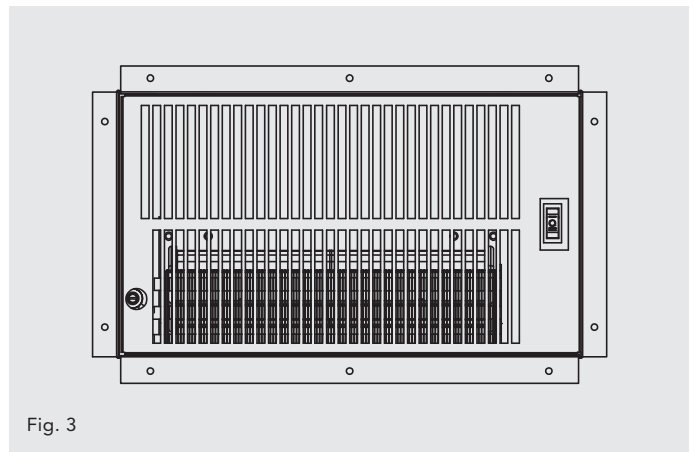

Fig. 3
- To speed installation, remove the six screws securing the debris screen (see Fig 3), put the screws and cover to one side. Remove the fixing screws and lift open the switch panel. Installing a Romex electrical connector at this time will speed the installation process later.